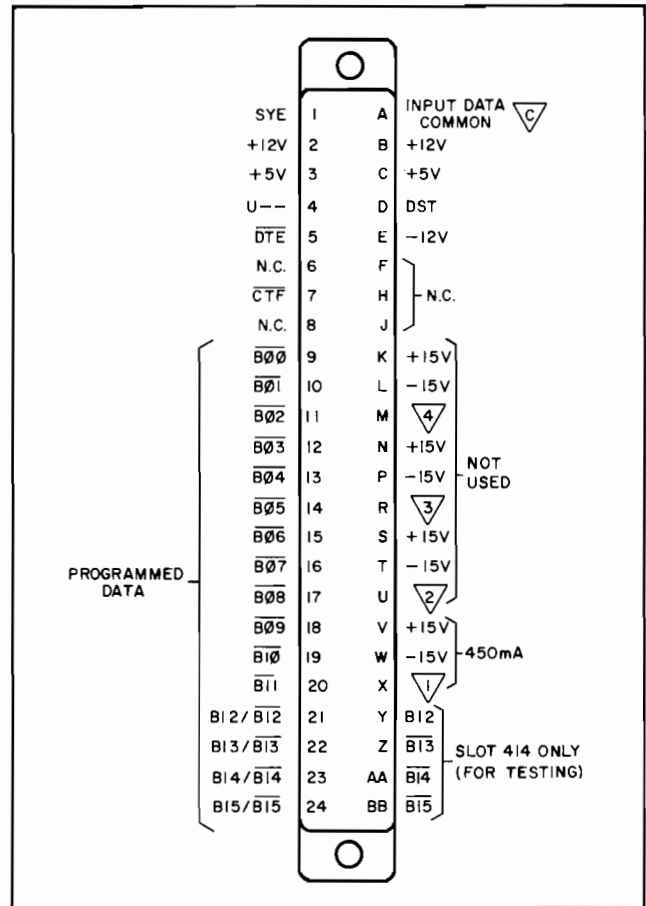

Figure 3-1. Multiprogrammer 400 Series Slot Connector
3-2 The relay output card is controlled by the multiprogrammer unit in which it is installed. All d-c operating power, address and data bits, and control signals are supplied to the output card through multiprogrammer main frame connectors in slots 400 through 414. Figure 3-1 illustrates the signals present on all multiprogrammer 400-series connectors.
3-11 An output card is selected to receive new data when its associated address bits ( $B12/\overline{B12}$  through  $B15/\overline{B15}$ ) and a unit select line (U--) are all HI. Although both the true and complemented forms of the address bits are represented on Figure 3-1 (e.g.  $B12$  and  $\overline{B12}$ ) only one of the two states is present on each of the four address gate lines when the card is installed in a multiprogrammer slot. For example, if the output card is installed in slot 405, then bits  $B12$  (1),  $\overline{B13}$  (2),  $B14$  (4), and  $\overline{B15}$  (8) will be present on the address lines, and all four lines will be HI when slot 405 is